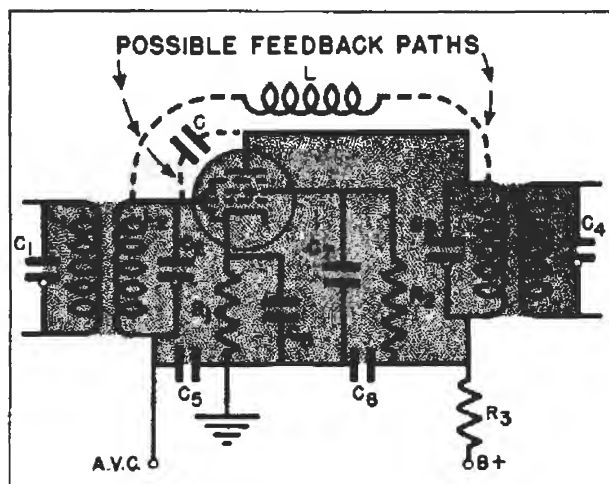

FIG. 20. This i. f. stage can have either inductive or capacitive feedback paths between grid and plate circuits.
Fig. 20 shows a typical i.f. amplifier stage. As in all radio stages, there is a certain amount of grid-plate capacity. This can act as a feedback path—even in modern pentode tubes, in which the screen grid and the suppressor grid both tend to reduce this grid-plate capacity to a very small value. In addition, there is capacity coupling between grid and plate leads, as well as possible inductive coupling between the input and output tank circuits.
► Incidentally, proper alignment may clear up oscillation in a circuit like that in Fig. 20. If the tank circuit C_1-L_1 is far off resonance, the reflected effects on C_2-L_2 are reduced, so the Q factor of the latter circuit will rise. Similarly, if tank circuit L_4-C_4 is far off resonance, the impedance of tank circuit C_3-L_3 will rise. Either condition may produce instability and oscillation. When the circuits are all correctly aligned, the reflected effects will load the tuned circuits in the offending stage and reduce their Q . Further, if the plate tank circuits are carefully tuned slightly below resonance (using an increased trimmer condenser capacity setting), then there is little chance